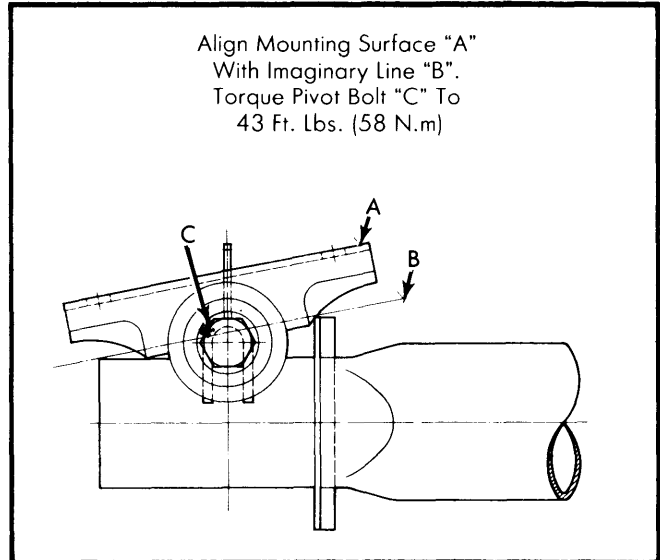

Fig. 2 Drawing Showing Correct Mounting Pad Alignment
Installation — 1) If axle beam mounting has been removed, use Fig. 2 to correctly adjust mounting pad. If pad is not correctly aligned, torsional preload of mounting bushings will be incorrect.
4) Align mount as shown in Fig. 2. Tighten pivot bolt nut. Lower vehicle.